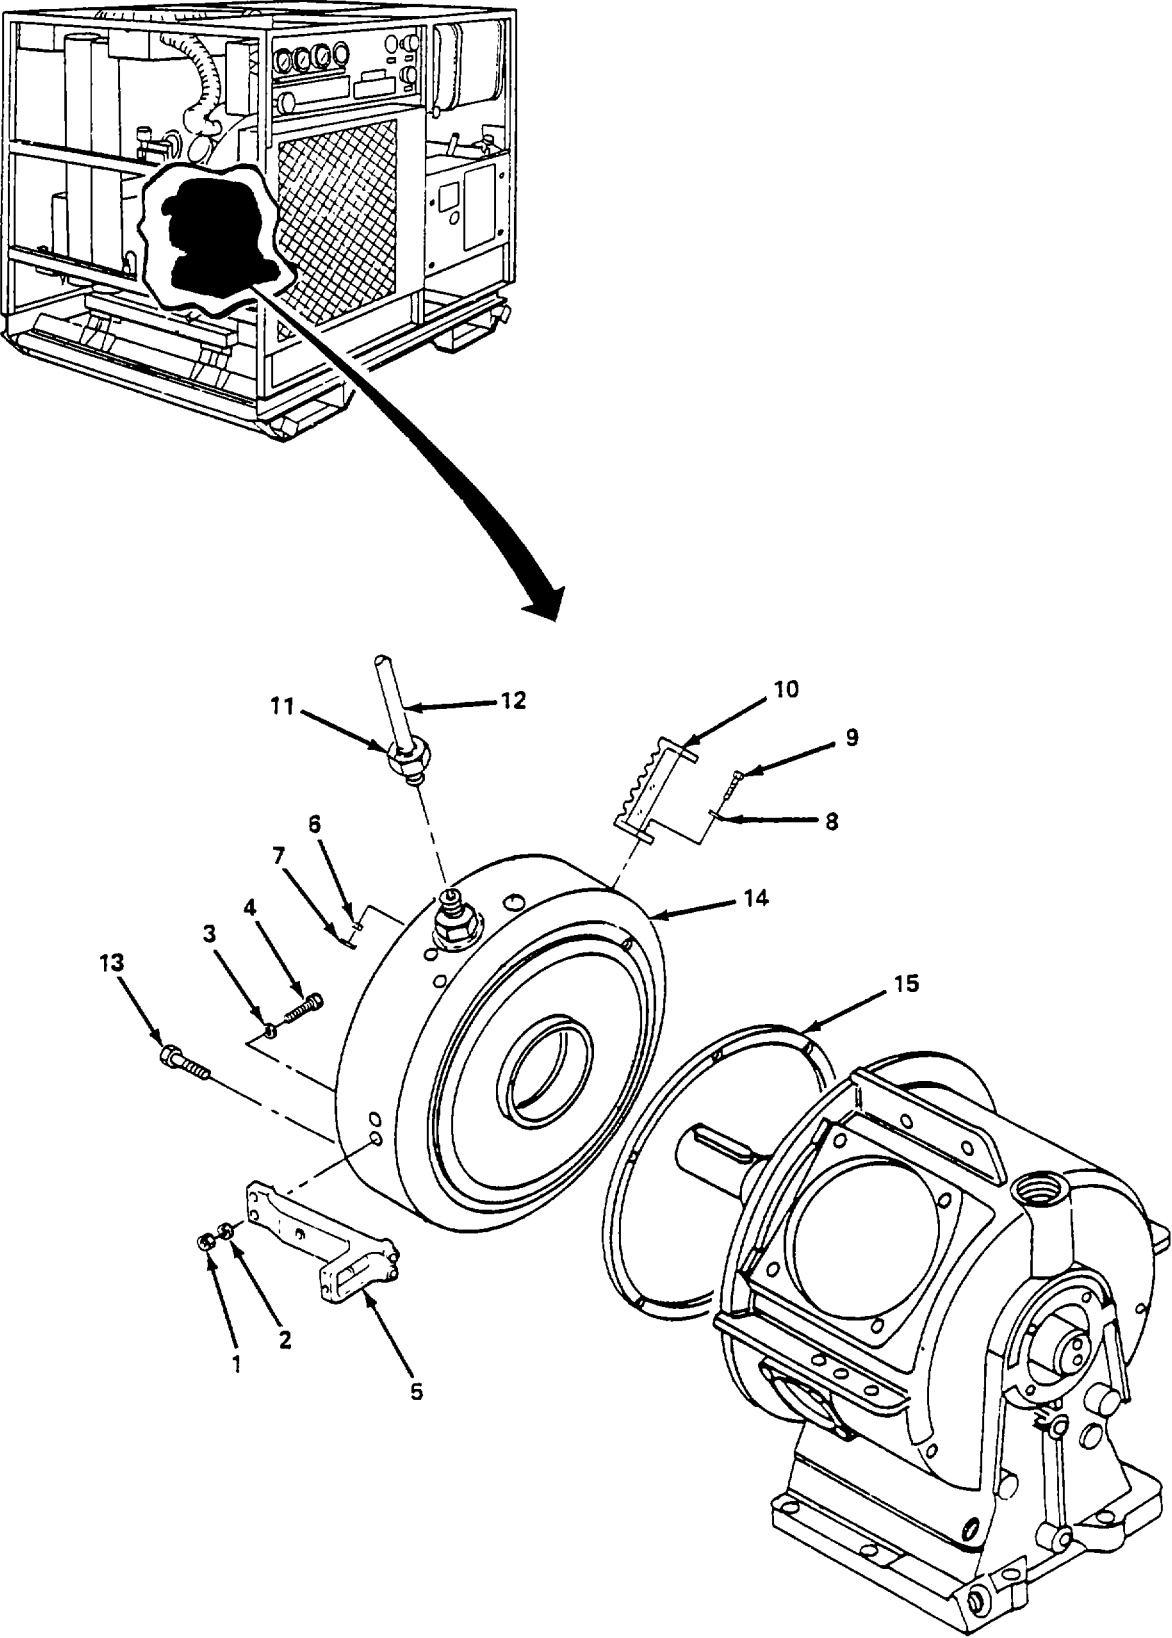

Figure 6-10. Crankcase Front Cover Assembly, Replace.
a. Replace. (figure 6-10)
- (1) Remove four nuts (1), lockwashers (2), washers (3), and alien screws (4) and remove two brackets (5).
- (2) Remove eight nuts (6), lockwashers (7), washers (8) and alien screws (9) and remove four brackets (10).